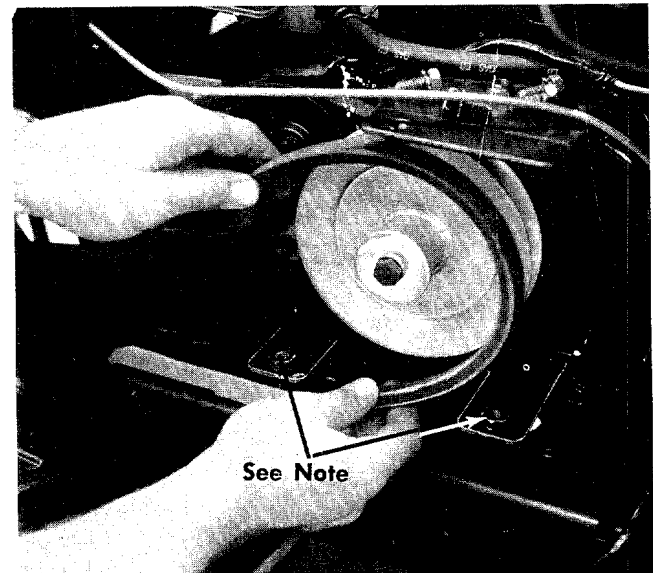

FIGURE 15. ATTACHING THE DECK BELT
- j. Attach the deck belt to the engine pulley. See figure 15.
d. Clutch-Brake Pedals. Depress both of them all the way down to stop or shift gears. Release pedals slowly to engage. See figures 15. and 17.